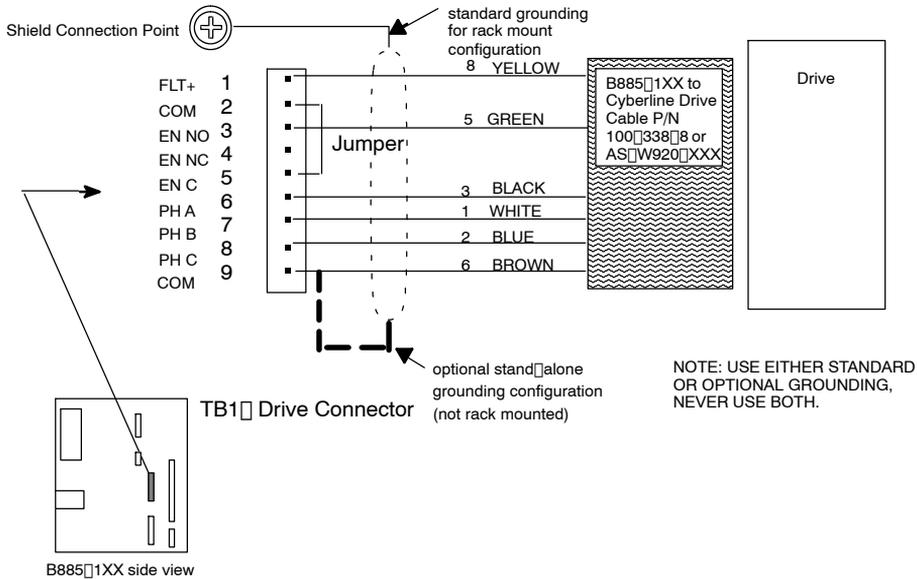
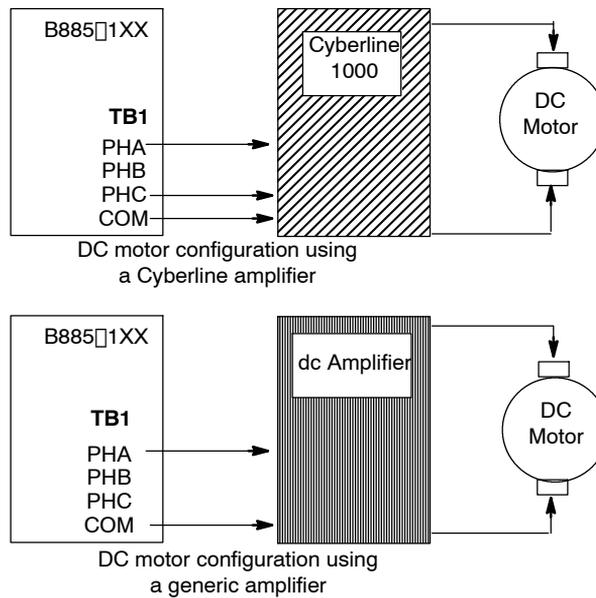

Figure 9 TB1 Drive Typical Wiring
Figure 10 Typical DC Motor Wiring
Three current commands are provided to control a 3-phase brushless ac motor. For dc drives, only two of the three phases are used. The current commands will be $\pm 10\text{ V @ } 5\text{ mA}$. A 12 bit D/A convert is to generate signals for two phases, which are then scaled using a current command signal output by another 12 bit D/A converter. The resulting signals are output as phase A and phase B, and their sum is output as phase C. Refer to Figure 9 and Figure 10.
- Step 7** Wire the drive fault (FLT+) signal from the drive connector to B885□1XX TB1 connector (pin 1). Refer to Figure 9.